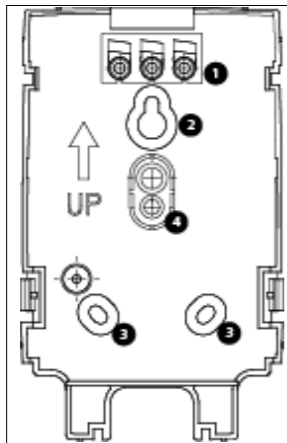

Fig. 1: Rear Panel / Staffa di fissaggio / Panel posterior / Panneau arrière / Painel traseiro
**Step 2: Mounting the Module (see Figure 1)**